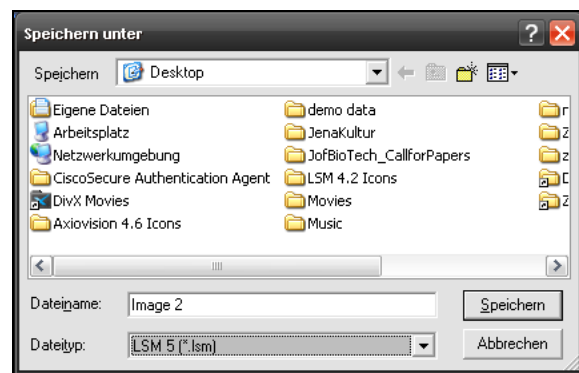

Fig. 28 Save as window
- The **WINDOWS Save As** window (Fig. 28) appears.